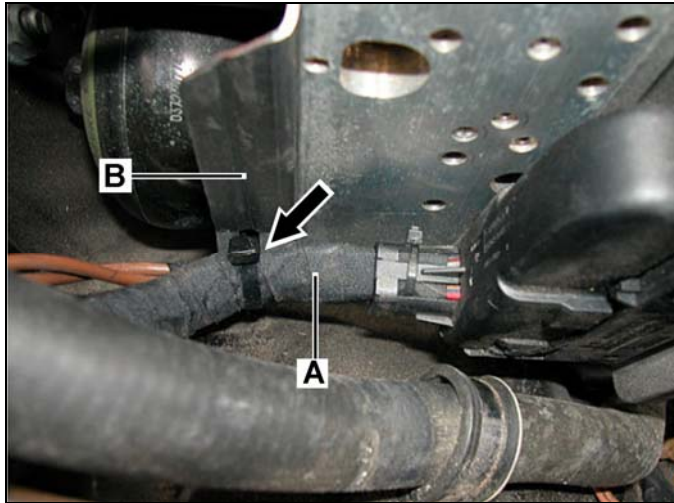

Figure 25
- Ensure cable tie (arrow, Figure 25) was properly affixed using cable tie pliers (Hellermann MK9; special tool number W 352 589 02 37 00); use **setting 3 on cable tie pliers**, as shown in Figure 26.
- Ensure wiring harness (A, Figure 25) touches the bracket (B, Figure 25) and is mounted there free of tension.